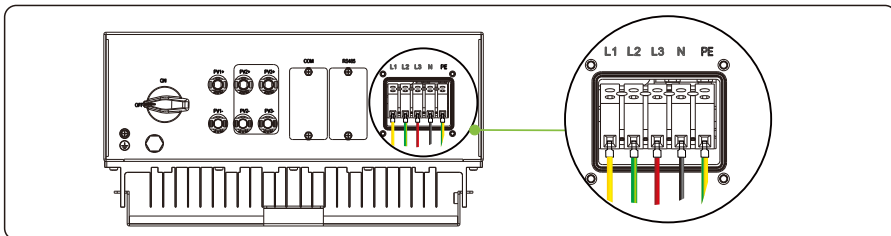

Figure 5.7 Tightening AC cable
Step 4 Connect the AC output cable to L1, L2, L3, N and E on the AC terminal block, tighten them using screw driver with a torque of 1.5 N.m, as shown in Figure 5.7.